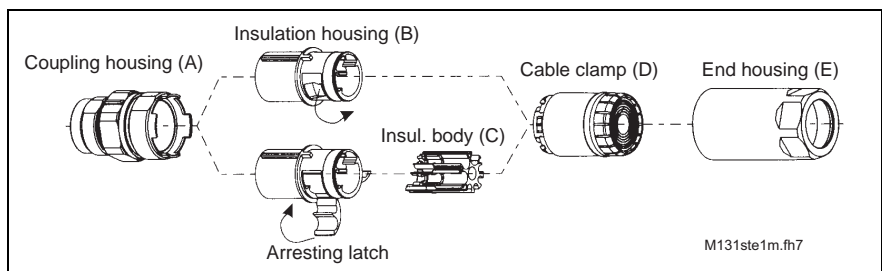

Fig. 2-26: Individual parts INS0682
1. Take the coupling apart, remove insulation body with pointed tools or tweezers (see Fig. 2-26).